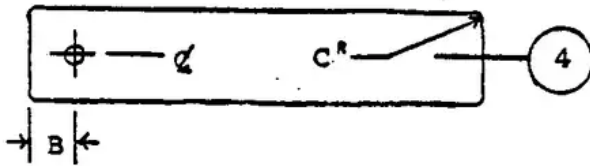

FIGURE 3
Drill 0.6cm (1/4") diameter hole in bending-head arm (4) and round off corners. <see figure 3>
1/4-inch holes to match the holes in the blocks. (See Figure 3 on page 5).